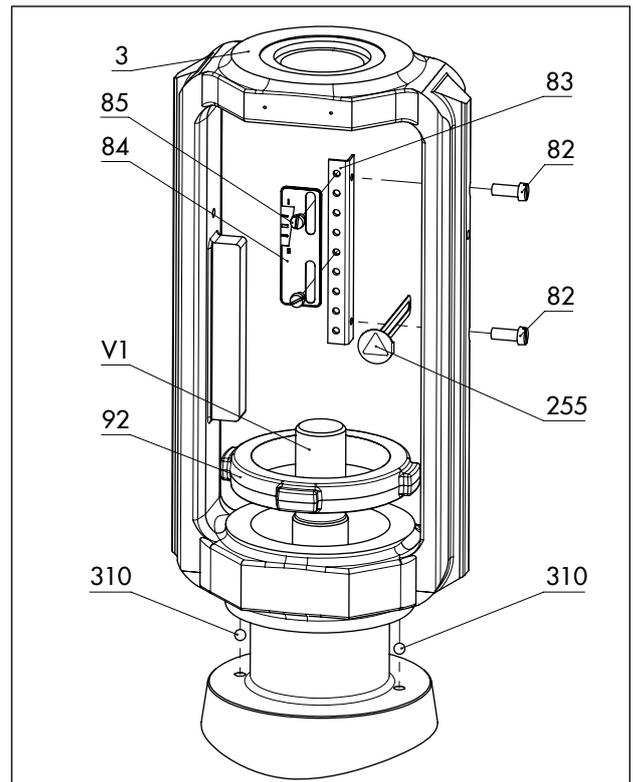
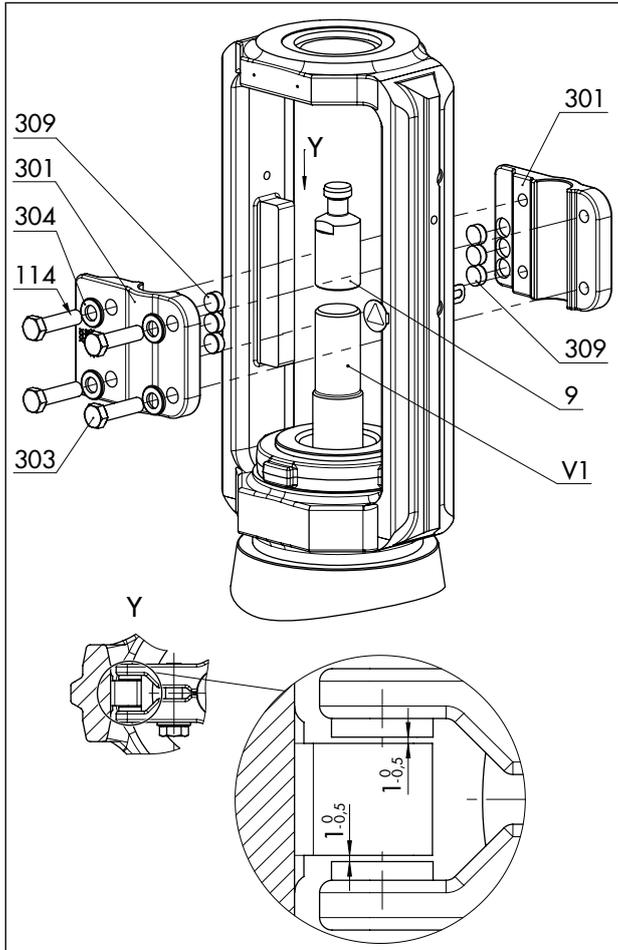

Fig. 14: Overview of yoke assembly with travel indicator scale in the standard version
Fig. 15: Overview of anti-rotation fixture assembly in the standard version
See Fig. 14 and Fig. 15
- There is a nominal clearance of 0.5 to 1 mm between the sliding washers and their contact surface on the yoke on each side (see detailed view Y in Fig. 15).